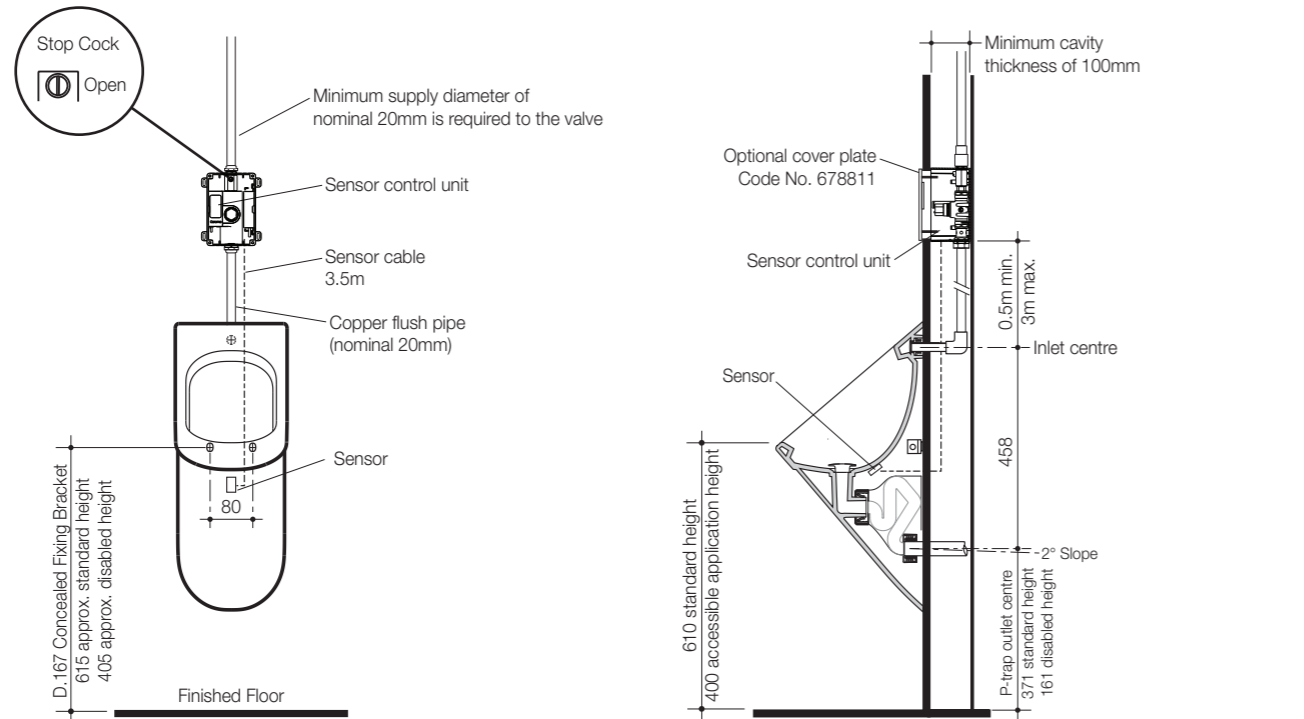
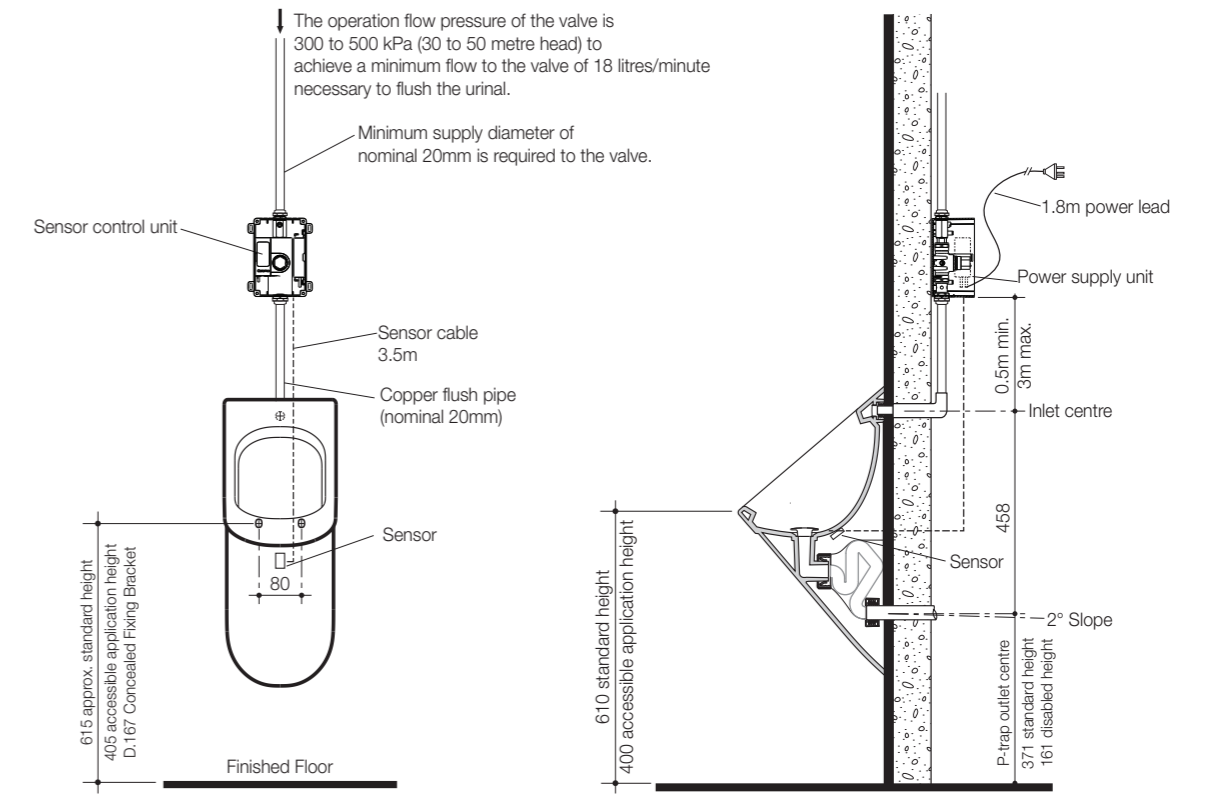
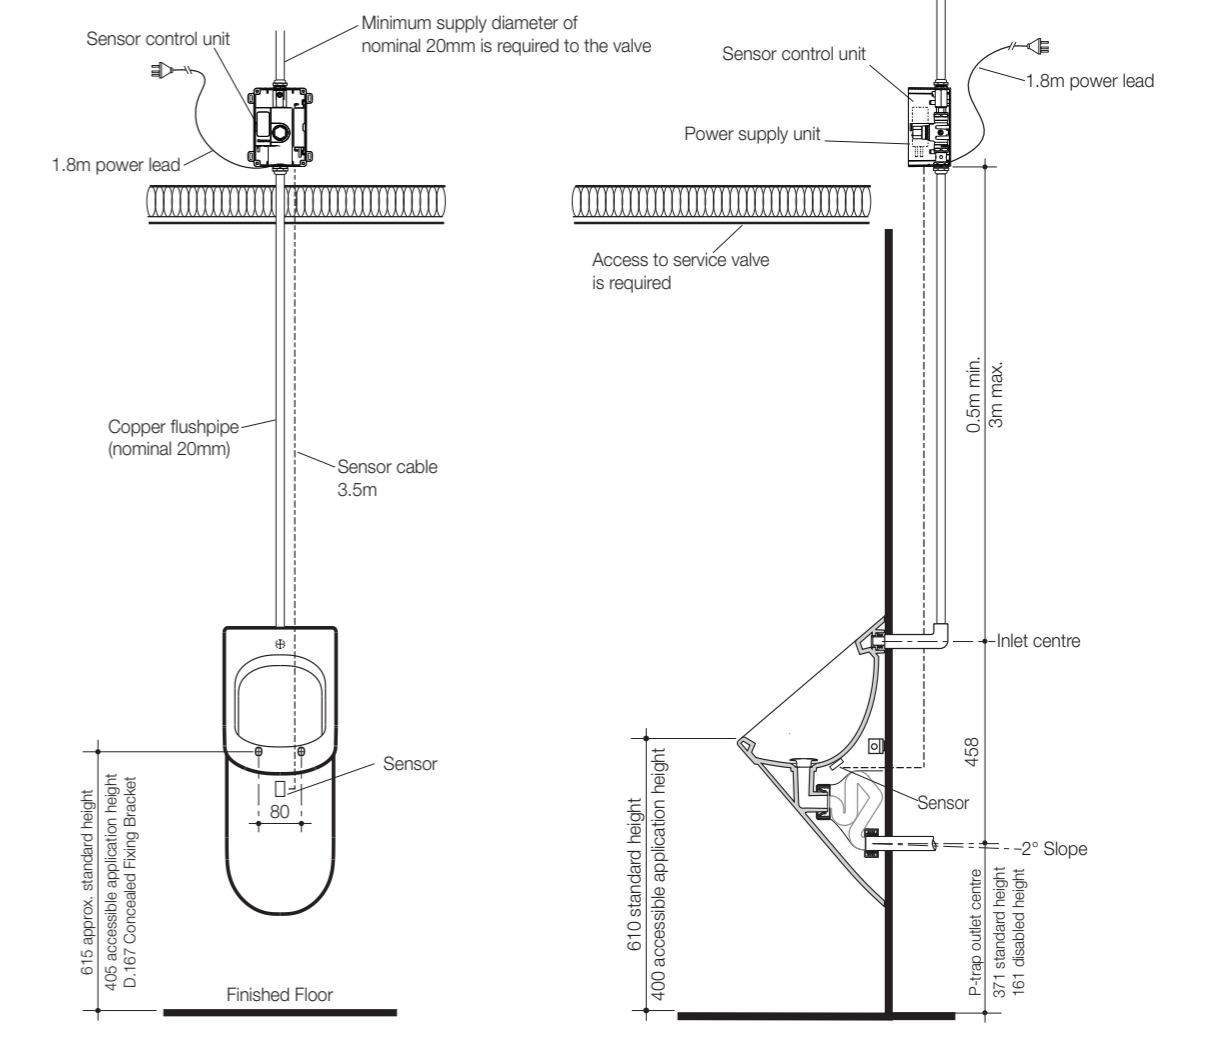

Fig. 1
Fig. 4
Fig. 5
1. Install flush valve as required, inwall (Fig. 1), induct (Fig. 4) or inceiling (Fig. 5). **IMPORTANT:** Flush valve must be installed vertically.
7. Mount Sensor Control Unit, as detailed in Fig. 1.